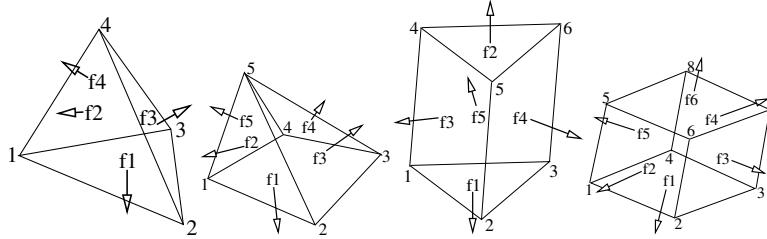

Figure 3.1: Mesh element types in Solfec-2.0.
- **elements** - list of elements:  $[e1, n1, n2, \dots, ne1, me1, e2, n1, n2, \dots, ne2, me2, \dots]$ , where  $e1$  is the number of nodes of the first element,  $n1, n2, \dots, ne1$  enumerate the element nodes, and  $me1$  is the material number. Similarly for the second and all remaining elements. Supported numbers of nodes per element are 4, 5, 6, and 8 for respectively *tetrahedron*, *pyramid*, *wedge*, and *hexahedron*, see Figure 3.1.